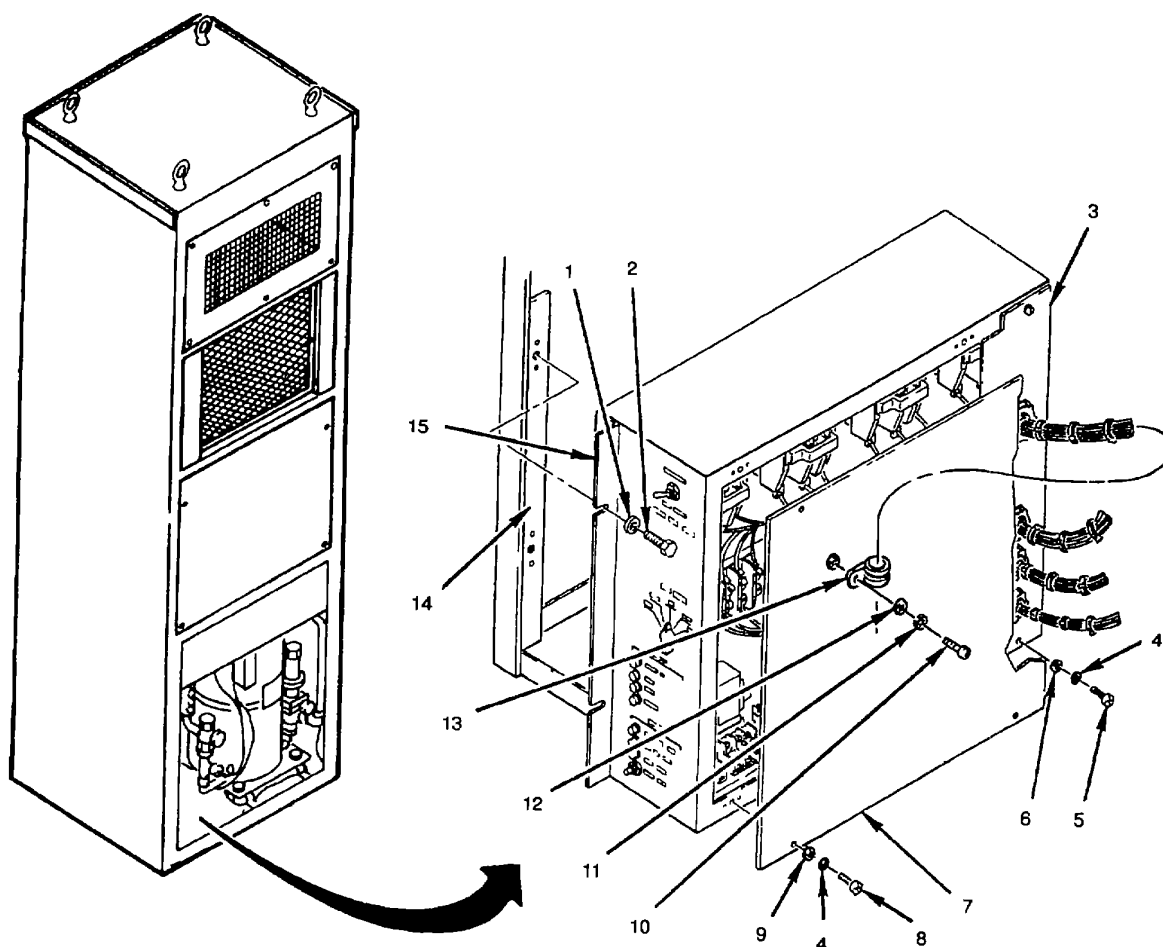

Figure 4-18. Control Box Assembly
- (1) Disconnect air conditioner input power at source,
- (2) Remove condenser fan section panel (paragraph 4.23), and
- (3) Remove compressor section panel (paragraph 4.24).
- a. Remove screw (10), lockwasher (11), and flat washer (12) securing wire harness clamp (13) to cover (7) of control box assembly (15) (see fig. 4-18).
- b. Remove two bolts (2) and flat washers (1) securing control box assembly (15) to bracket (14).